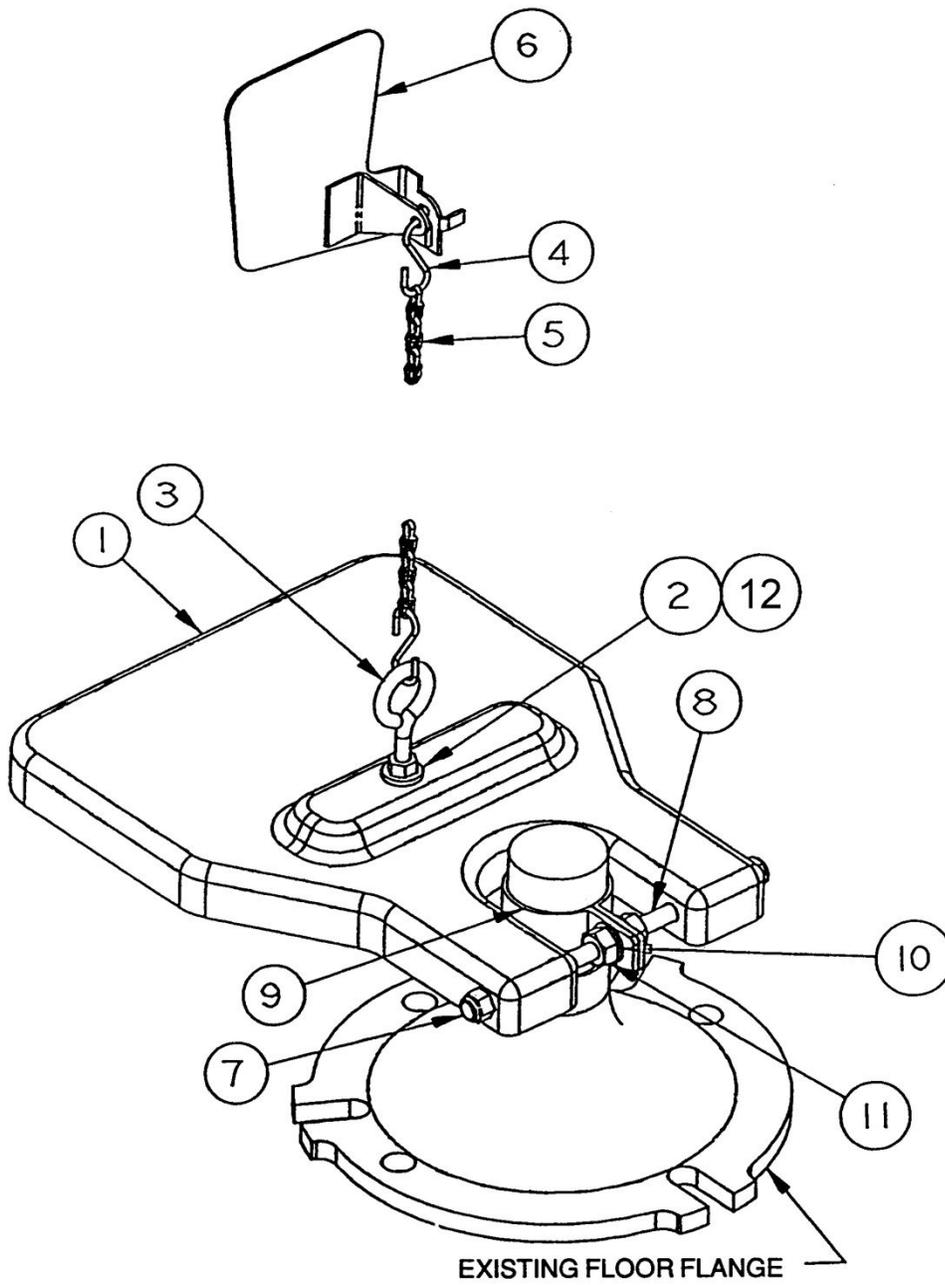

FIGURE 1
1. Refer to Component Parts List below and Figure 1 on page 2 for reference.
7. Install one (1) S-hook (#4) onto the eyebolt and one end of the chain (#5) onto the S-hook.